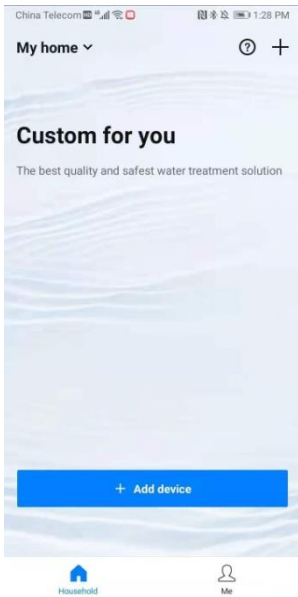

Figure 2-1
④ In Figure 2-1, click "Add device", enter to Figure 2-2 interface. Follow the instruction, disconnect the power and reconnect it manually. Press and hold "  " button until hear a buzzer "Di". Press "Next" after 5 seconds. Then enter to Figure 2-3 interface. Input the Wi-Fi password, click "Connect to Wi-Fi" and wait for configuration. After configuration successfully, you can perform related operations such as device addition, name modification, saving data, etc.